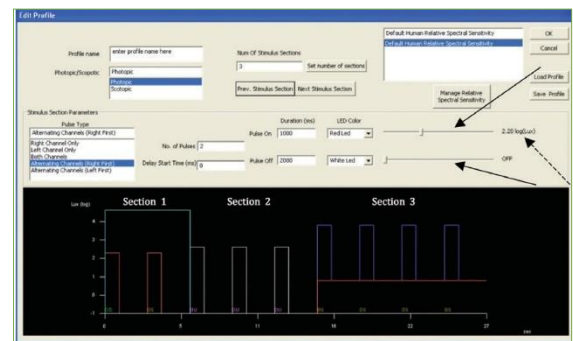

Figure 10 – The Edit Stimulus Profile GUI, Section 1.
The Edit Stimulus Profile button serves to define and to save a new light stimulus profile or to load a predefined profile. The basic unit of a profile is a light step during which a light pulse is flashed to the eye and then turned off. Light pulses can be repeated a number of times, thereby forming a section. Pulses and/or sections can be concatenated in order to define the final light stimulus profile. The Edit Stimulus Profile GUI (Figure 10) is used to define all the elements of the light stimulus profile.
Light intensities are defined in Lux or pure radiometric units (W/m^2). Two different definitions of Lux are available. They correspond to the scotopic or photopic CIE human luminosity sensitivity function and they can be selected using the drop-down menu on the top-left side of the GUI. Lux or radiometric values can be set using the horizontal slide button (see arrows); and, they are incremented by 0.1 log unit steps. When a Lux value cannot be achieved, the number (see the dashed arrow, Figure 10) is displayed in red and a lower intensity must be selected instead.
For example, Section 1 (Figure 10) is defined by two pulses of red light of 2.20 logLux flashed for 1000 msec and then turned OFF for another 2,000 msec (total duration 3 seconds). The eyes are stimulated alternatively with the right eye (OD) stimulated first.
All the elements of the pulse are definable using the corresponding input window in the Edit Stimulus Profile GUI (Figures 10, 11 and 12). A new Section can be added or deleted by just entering the proper number in the Num. Of Stimulus Section box. Sections can be browsed and edited using the Prev. Stimulus Section and Next Stimulus Section buttons.
If both pupils are tracked correctly, a press of the Start Experiment button will initiate the execution of the light stimulus protocol. The subject should be kept firmly in front of the cameras – blink or similar artifact should be minimized. A live progressing trace of the two pupils' dynamics (yellow for the left pupil and green for the right pupil) are shown on the bottom inset of the main GUI (Figure 18, note a blink at second 11). At the end of the measurement – the results file is saved in folder C:\NeurOptics\DP2000\DATA and results are displayed in the View Results GUI. Note that the Start Experiment switches to Abort Experiment as soon as the measurement is initiated, and it must be used to abort the experiment. Another switch, Pause/Resume Experiment (added in the new version of the software and not shown in Figure 10) serves to interrupt momentarily (and then resume) the ongoing measurement. The Pause/ Resume switching operations can be performed also by simply pressing the space bar on the keyboard.